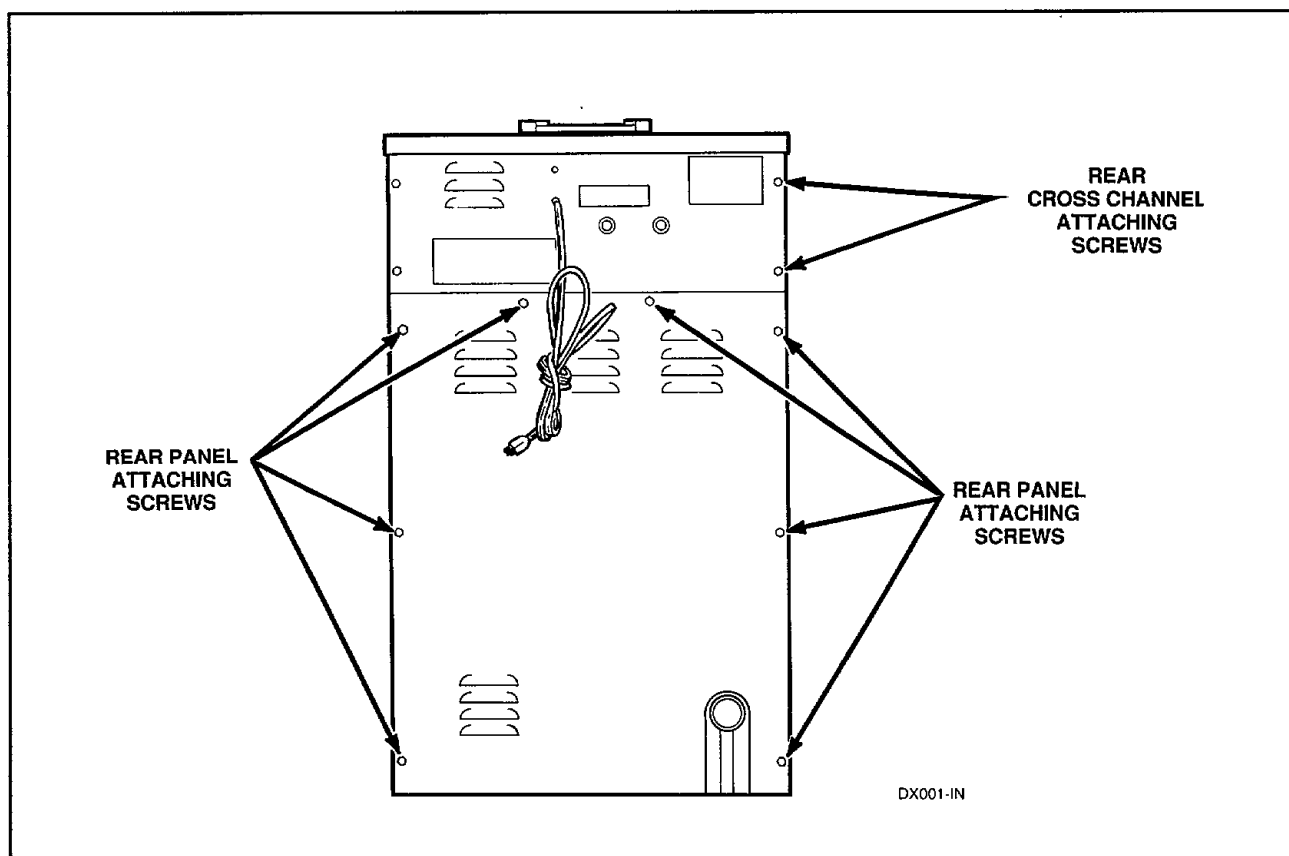

Figure 10
Remove screws holding the rear panel to the washer side panels, *Figure 10*.
- Remove screws holding rear panel to side panels, *Figure 10*.
- i. Remove screws holding rear panel to washer side panels and remove panel, *Figure 10*.